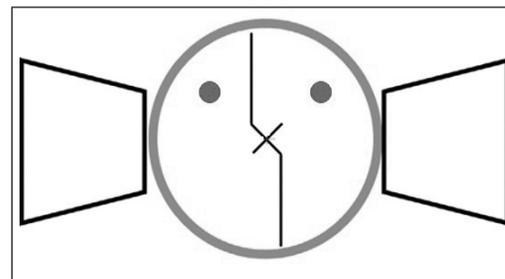

Figure 3
2. Pierce the valve with an access needle (18 or 21 gauge) at the 2 or 10 o'clock position until blood return (see Figure 3).